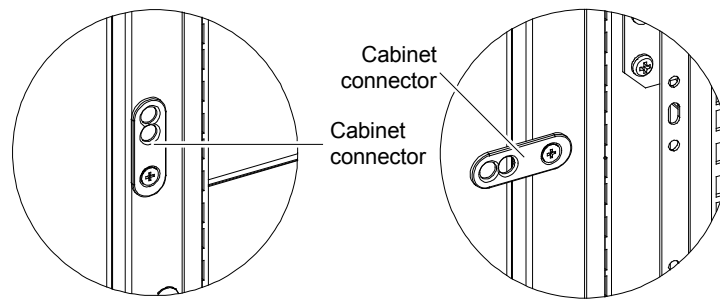

Figure 2-15 Rotating the Cabinet connector
- Rotate the cabinet connector 90 ° to the horizontal position. Use M5 countersunk head screws to fix it on the cabinet frame. (Side of the door lock) as depicted in Figure 2-15.